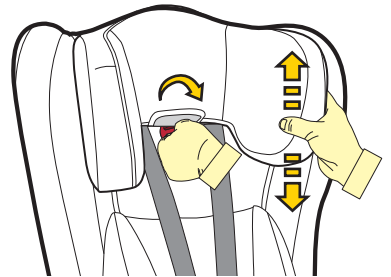

Figure 2
Step 3: Lift up or push down the headrest so that the shoulder strap slots are level with or slightly above your child’s shoulders. If the headrest is just above the shoulders then the harness level will be correct (refer Figure 2).